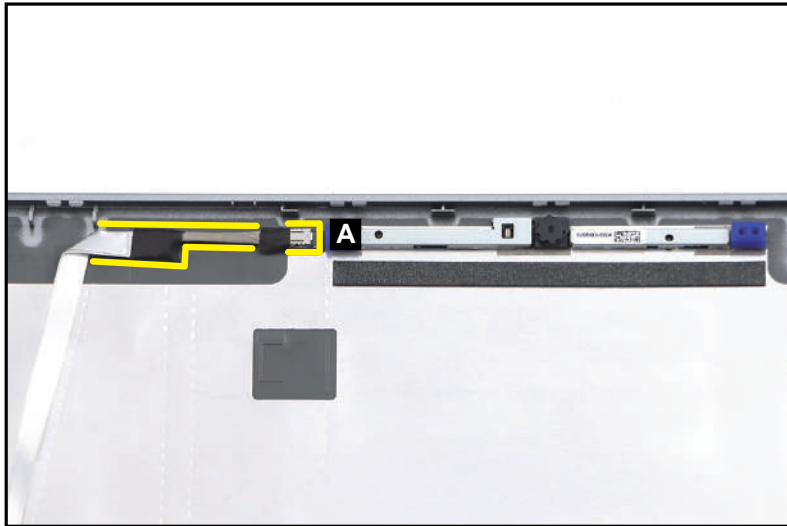

Figure 3-93. Replacing the LCD Cable
1. Connect the LCD cable to the camera module connector (A). Then route the LCD cable through the cable guides on the LCD cover as shown in Figure 3-93.